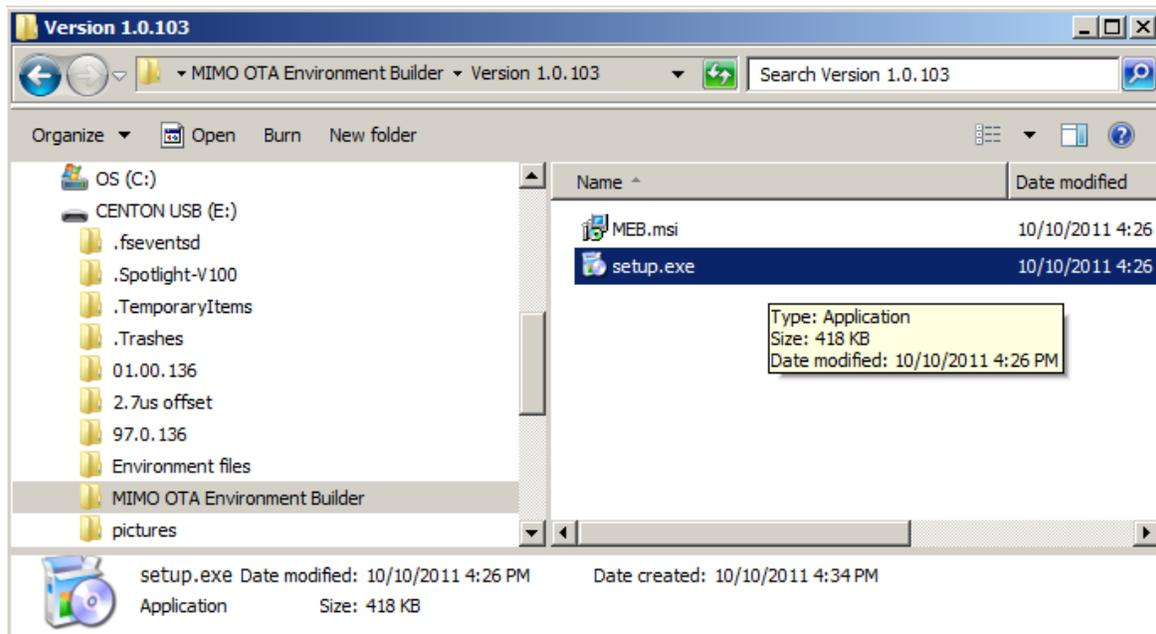

Figure 2-6: Installing the New Software
2. Run the **setup.exe** file, as shown in Figure 2-6 and follow the instructions to install the software.